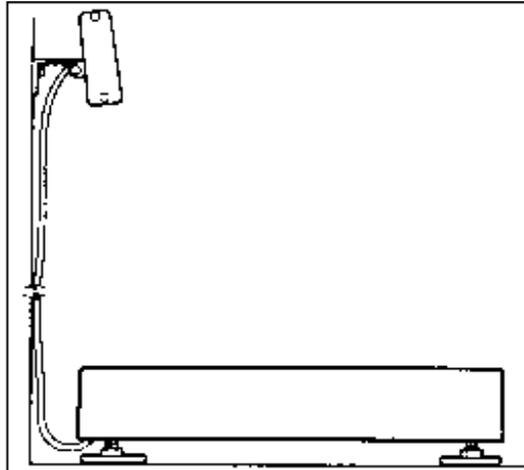

Figure 6
- 5). Figure 6 illustrates another method to remotely mount the display to a tabletop or wall.